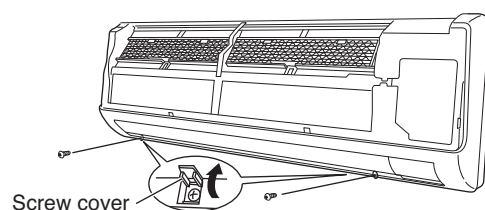

Fig. 16b
- (5) Affix the grille with the 2 previously removed screws. (Fig. 16b)
- (6) Install the air intake grille.